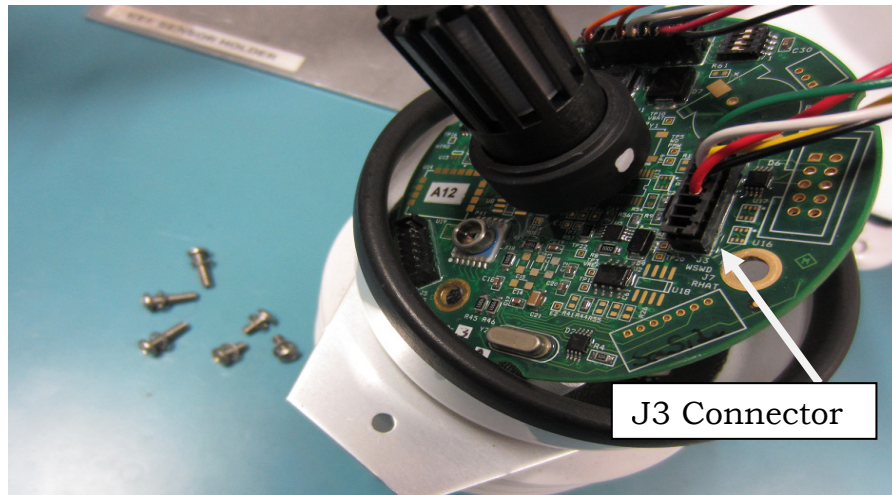

Figure 8
2. Install the new Temp-RH Sensor Assy. MOI PN 10697 onto the 8 pin Connector located in the center of the PCB making sure that the White Dot on the new Temp-RH Sensor Assy. is facing the J3 Connector on the PCB. See Figure 8.